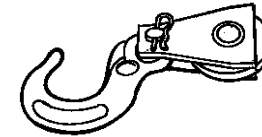

Fig. 17
3. **USE A PULLEY BLOCK FOR HEAVY LOADS.** To maximize winch and wire rope life, use a pulley block to double line heavier loads (See Figure 17).